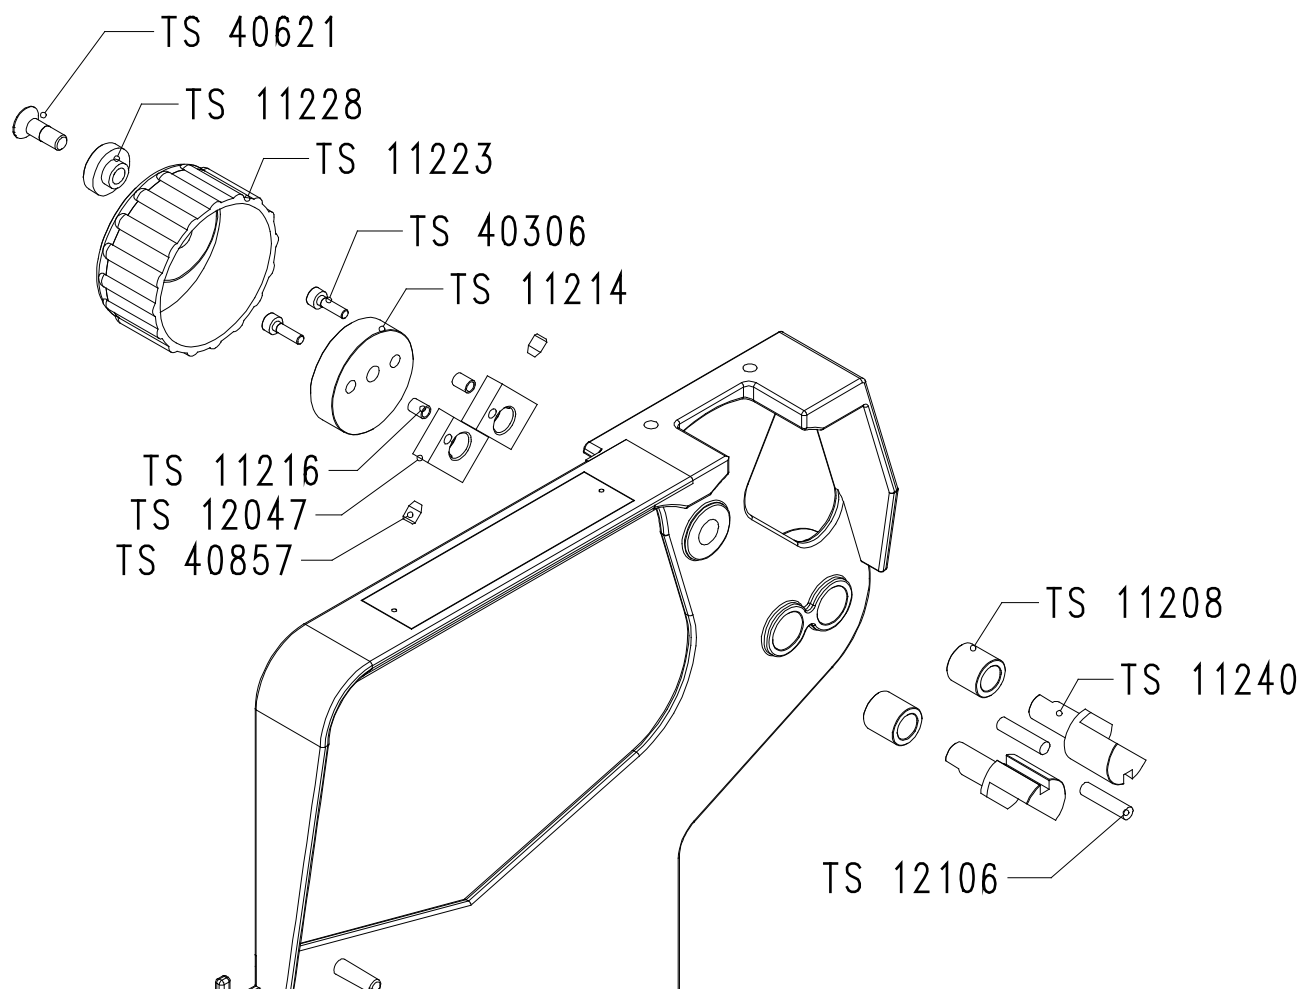

Figure 11-10: tape cleaner for Chemical version, details
- Figure 11-10: tape cleaner for Chemical version, details